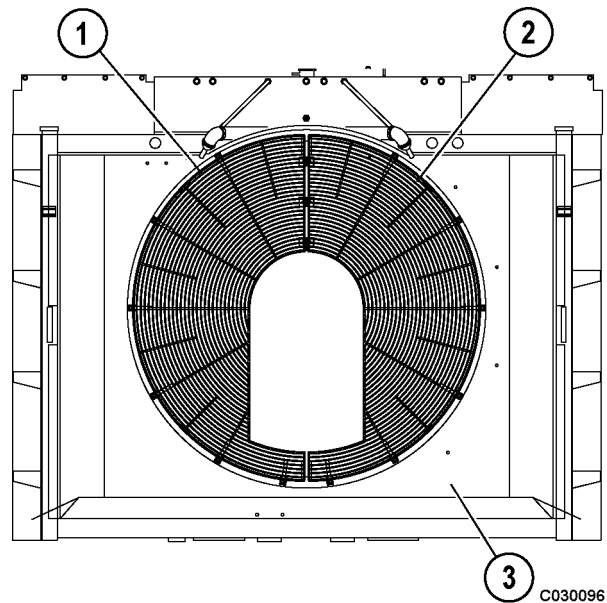
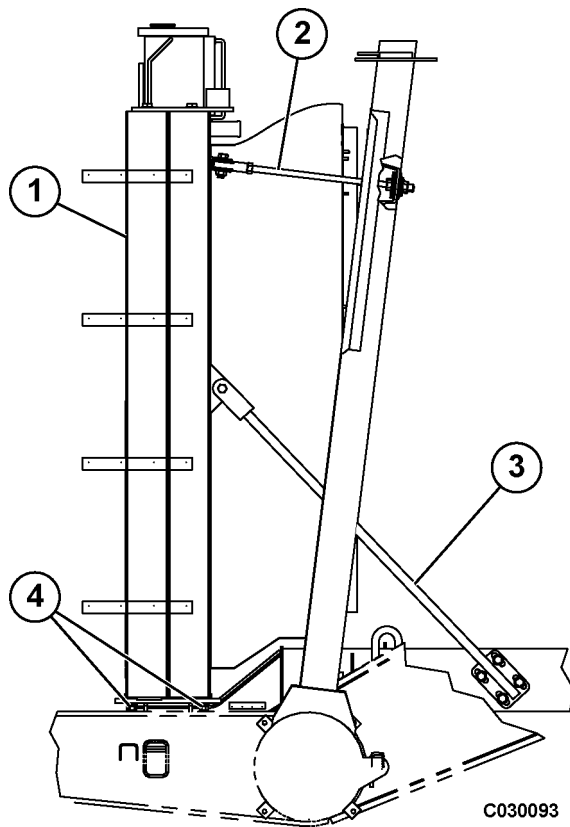

FIGURE 3-4. FAN GUARDS
FIGURE 3-5. RADIATOR MOUNTING
8. Remove the capscrews and lockwashers to free fan guards (1, Figure 3-4) and (2) from radiator shroud (3). The two halves of the fan guard may be disassembled and removed or the complete guard may be moved to the rear to clear the shroud during removal of the radiator.
10. Remove upper support rods (2, Figure 3-5) and stabilizer bars (3), if equipped.
2. Install radiator mounting hardware (4, Figure 3-5) at the lower radiator mounting brackets. Do not tighten at this time.
3. Inspect the rubber bushings for upper support rods (2) and replace them if worn or damaged.
4. Install upper support rods (2) and the mounting hardware at both ends. Do not tighten at this time.
6. Tighten radiator mounting hardware (4) at the lower radiator mounting brackets to the standard torque.
7. For added stability, stabilizer bars (3) may be installed. Install the stabilizer bars at the radiator brackets and subframe as shown, then tighten the mounting hardware to the standard torque.
8. Install fan guards (1, Figure 3-4) and (2) using the original mounting hardware.